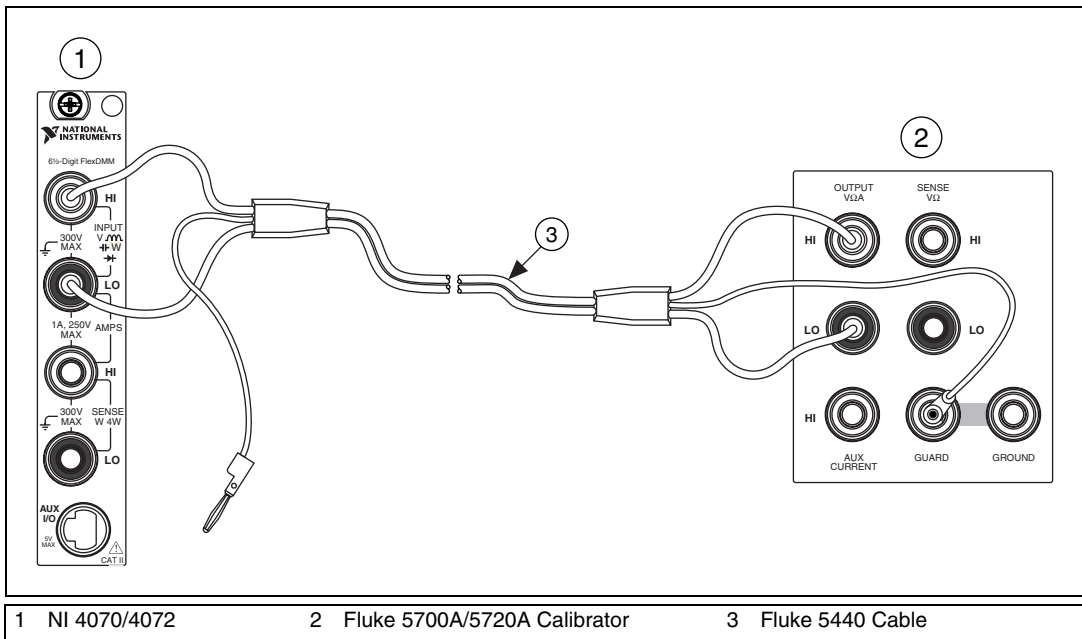

Figure 1. Cable Connections for Voltage and 2-Wire Resistance
22. Fasten the connectors on one end of the Fluke 5440 cable to the appropriate banana plug connectors of the NI 4070/4072, and fasten the connectors on the other end of the cable to the appropriate calibrator binding posts. Figure 1 shows the correct connections. Table 1 lists the cable connections.